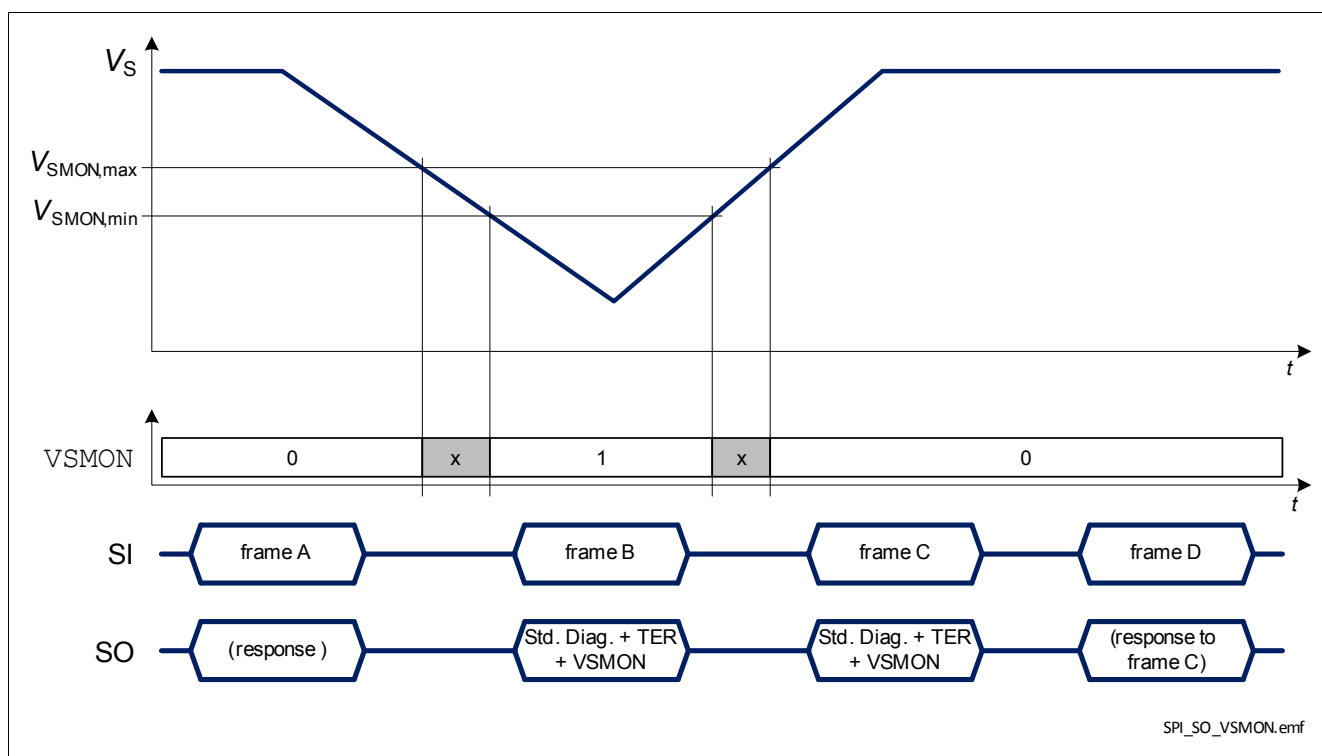

Figure 34 BTS54220-LBF response in case of a negative battery voltage transient
- when $V_S < V_{\text{SMON}}$ and $\text{DCR.MUX} \neq 111_{\text{B}}$, as shown in Figure 34